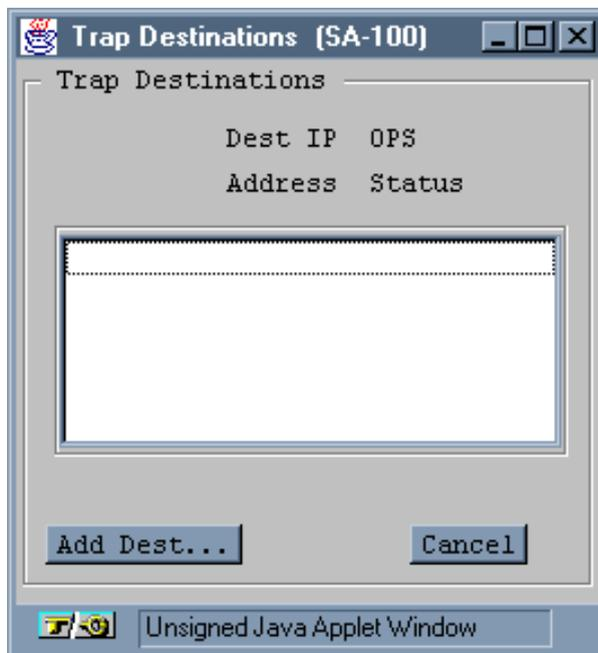

Figure 7-6. Trap Destinations Window
- When you are finished selecting which events, alarms, and severity levels will generate traps, choose the Destinations button. The Trap Destinations window appears, listing any current trap destination addresses and their op status (Figure 7-6):